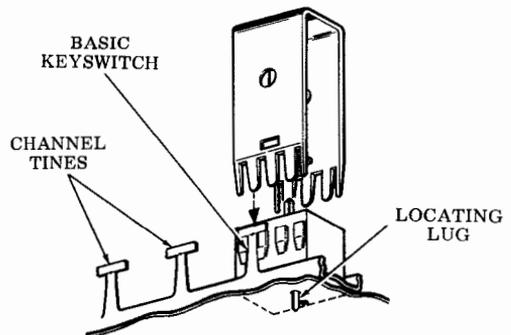

Fig. 15--Keyswitch Removal
- (d) Place 346257 tool over the keyswitch and press downward. When the tool bottoms and embossed projections snap into notches on keyswitch, squeeze and pull back on the tool to lift keyswitch out (Fig. 15).